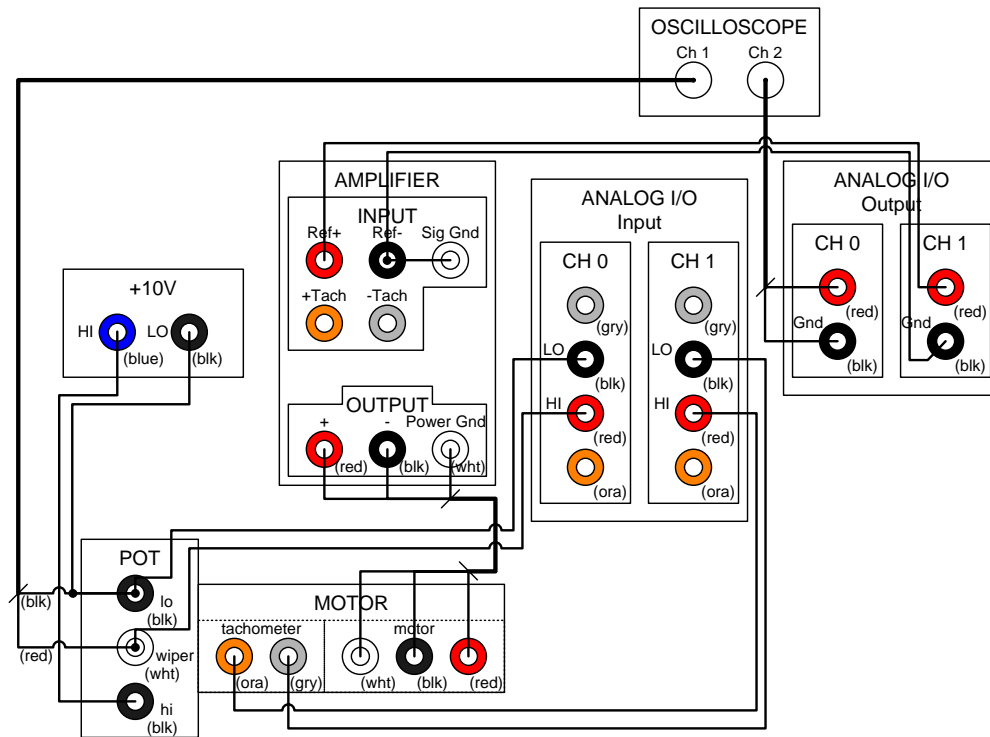

Figure 5.5: Wiring diagram for Part II.
1. Wire the circuit as shown in Figure 5.5.
8. Complete your model, using blocks from the SIMULINK Library Browser. As in Figure 5.5, V_{pot} is connected to ADC channel 0, V_{tach} is connected to ADC 1, v_r is connected to DAC 0, and e_2 is connected to DAC 1. Use **Slider gain** blocks instead of a gain blocks for K_1 and K_2 .